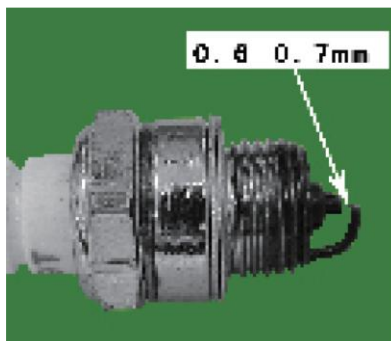

Fig 14
(2) Fuel system maintenance
(3) Air filter and plug
- d. The plug model of this machine is 4106J. Do not use other models. If it is necessary for change. May buy it from local agricultural department or plant protection department. as shown in Fig.14.